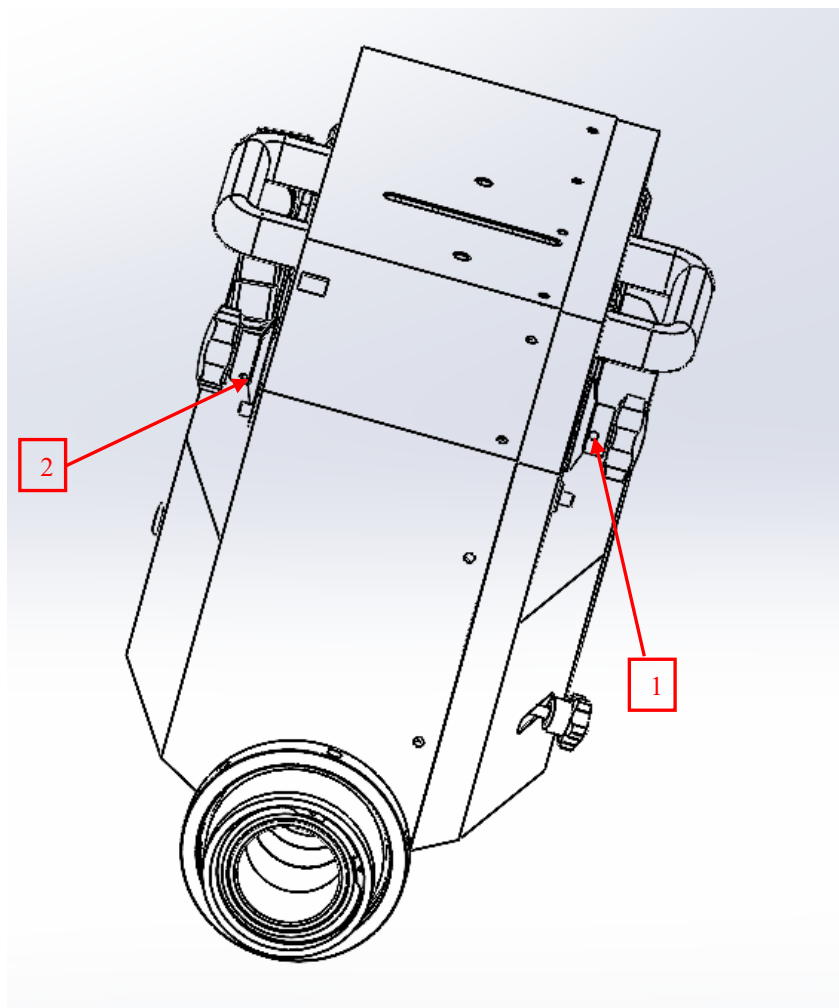

Figure 5.1
- 5.1.3 Unscrew the two locking grub screws shown in figure 5.1 – position 1 – position 2 and pull out the gear knobs;